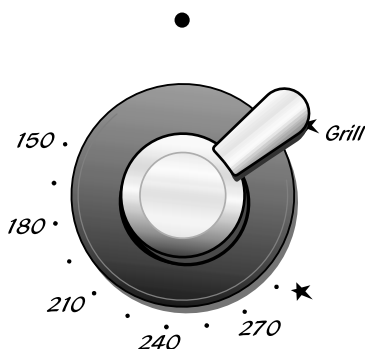

Fig. 6.4
- 2) Lightly press and turn the thermostat knob clockwise to the **★ Grill** position (fig. 6.4).